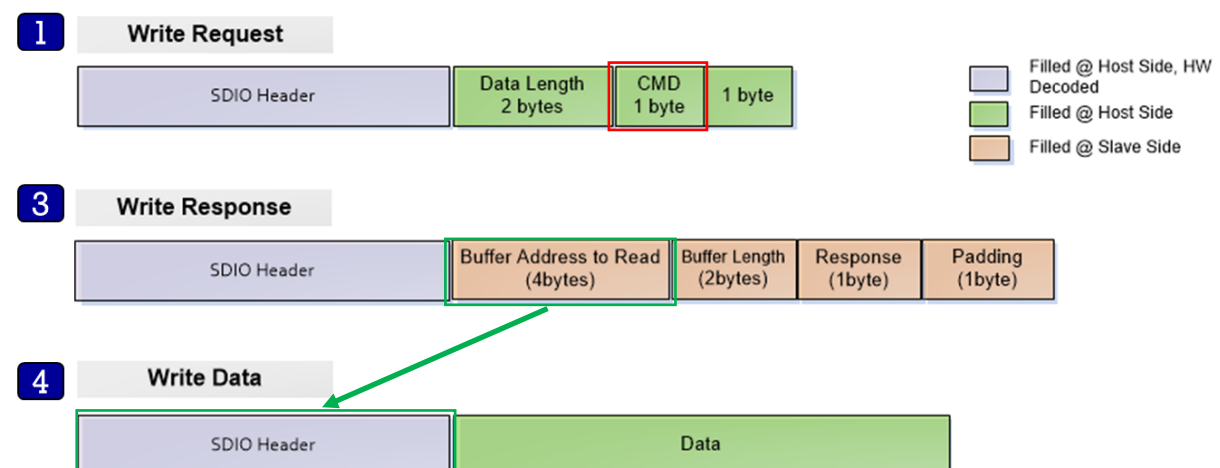

Figure 14: Structure
4. The Host sends data to address (`BUFF_ADDR`) which is received from the Slave in the Write Response message (green rectangle in Figure 14).